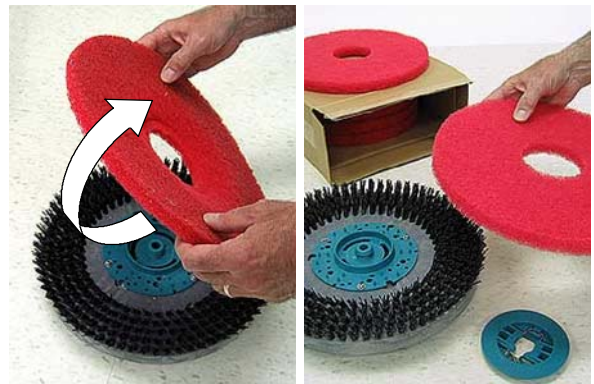

FIG. 61
5. Rotate pad or replace when worn (Figure 61).